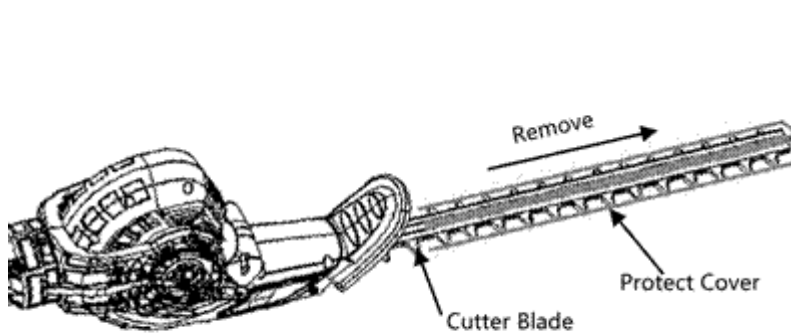

Figure 6
1. Remove the protective cover from blade (See Figure 6) .